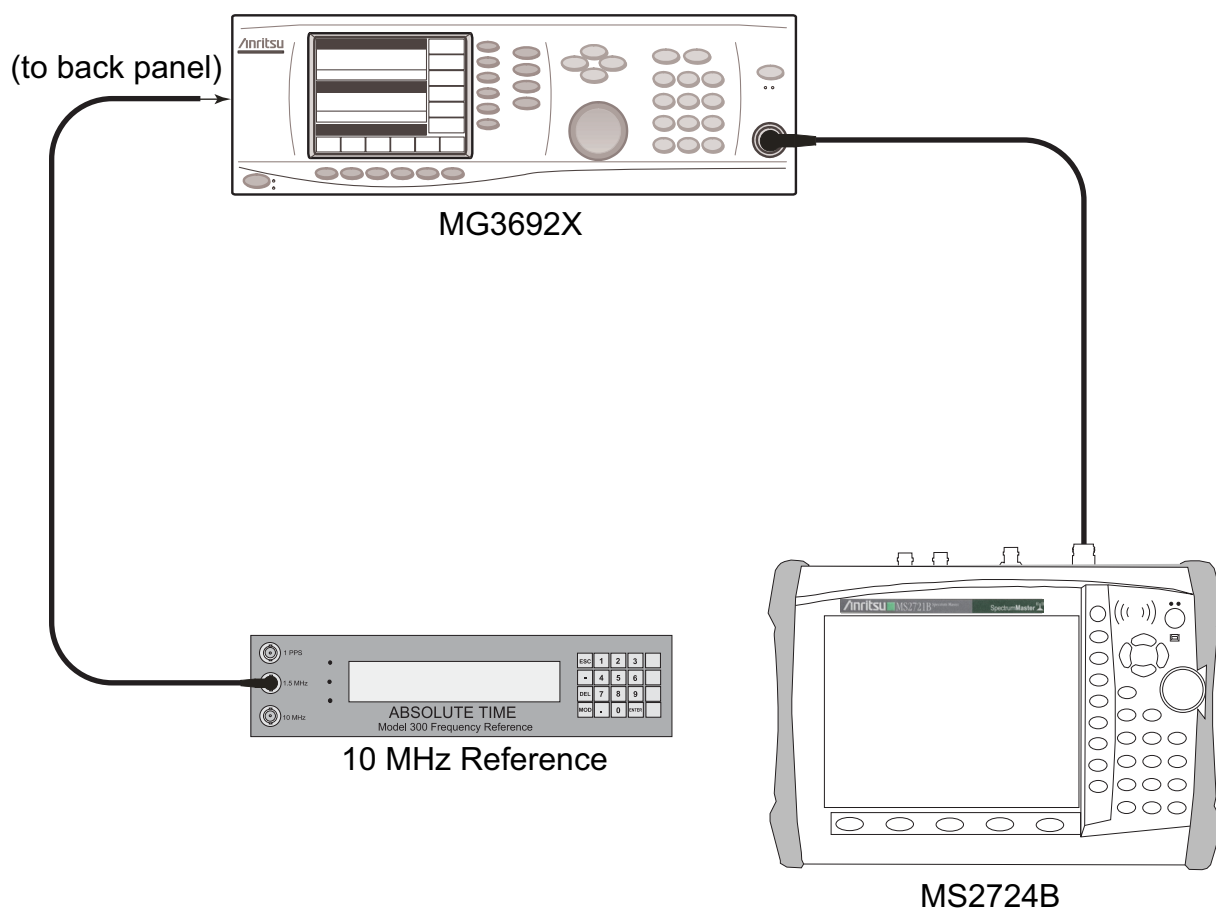

Figure 2-1. Spectrum Analyzer Frequency Accuracy – Test Setup
1. Connect the external 10 MHz Reference to the Anritsu MG3692x Synthesized Signal Generator, as shown in Figure 2-1.
11. Press the **Shift** key and then press the **Trace** (5) key.